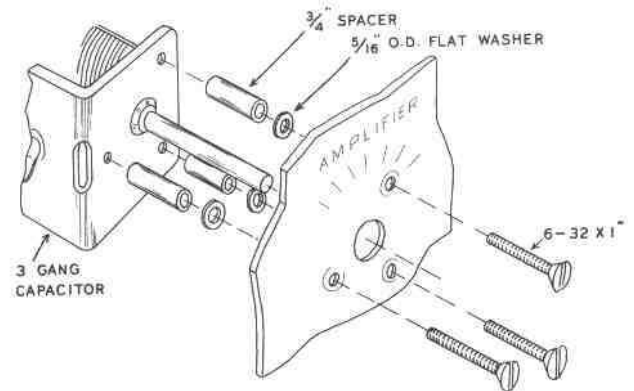

Figure 7
- (✓) Note the position in Pictorial 2 and mount the 3-gang variable capacitor on the panel using the three 1" flathead machine screws. See Figure 7. Insert the screw through the panel, then through a 1/16" washer, then through a 3/4" spacer into the capacitor frame. Bend up the three solder lugs to face horizontally toward the center of the panel.
- (✓) Connect a .005  $\mu$ f disc ceramic capacitor directly across the meter solder lugs (NS) as shown in Pictorial 3.
- (✓) Connect one end to the solder lug on the meter marked + (S).
- (✓) Dress the lead toward the center of the meter switch and run it between the #1 and #2 terminals. Connect it to #5 (S).
- (✓) Connect one end to the remaining meter terminal (S). Dress toward the center of the switch and connect it to #2 (S).